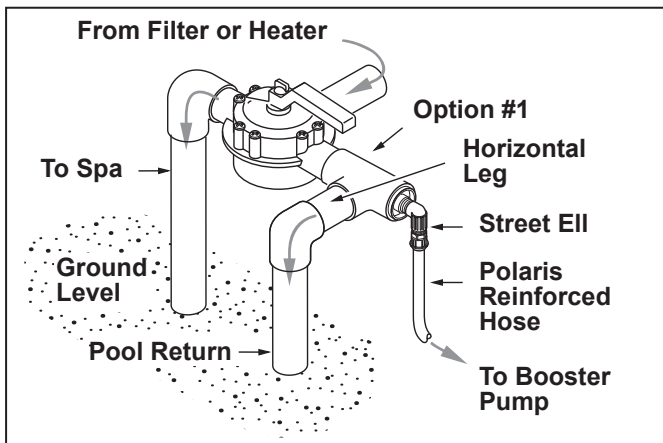

Figure 3. Preferred Plumbing Configuration
1. Use rigid PVC pipe with a minimum diameter of 3/4", 1-1/2" is recommended, for the dedicated return line. Flexible PVC piping is not recommended for the dedicated pool return line underground as it can be damaged by expansion and movement caused by the surge of pump pressure. Refer to Figures 3 and 4.